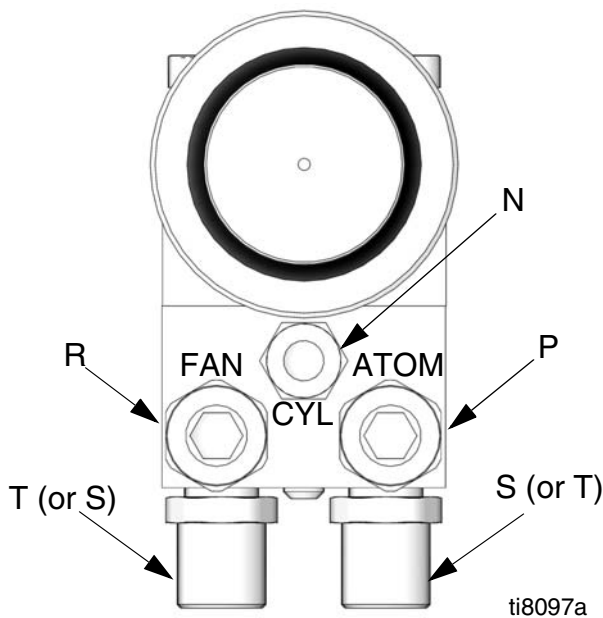

FIG. 8: Manifold Ports
- Install a fluid regulator (L) on the fluid line to control fluid pressure to the gun.
- Install a fluid shutoff valve (M) to shut off the fluid supply to the gun.
1. Connect the fluid supply hose (J) to the gun fluid inlet (S), 1/4 npsm thread. See FIG. 8.
2. Connect the other end of the fluid hose (J) to a regulated fluid supply outlet (M).
3. **In a circulating system**, connect a grounded fluid return hose to the gun fluid outlet (T). See FIG. 8.
In a non-circulating system, remove the gun fluid outlet fitting (T) and plug the outlet port with the pipe plug supplied. See FIG. 8.